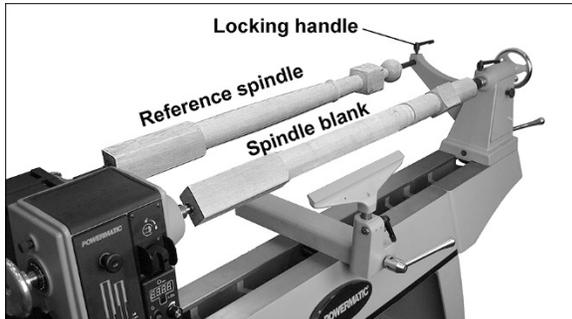

Figure 8-7: comparator
2. Install comparator dead center in the tailstock bracket and tighten locking handle. See Figure 8-7.
4. Mount reference spindle between comparator centers, as shown in Figure 8-7.